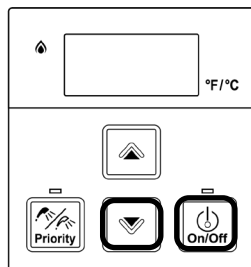

Figure 41
2. While holding the ▼ (Down) button for 2 seconds, press and hold the “On/Off” button (hold both buttons simultaneously). (Figure 41)